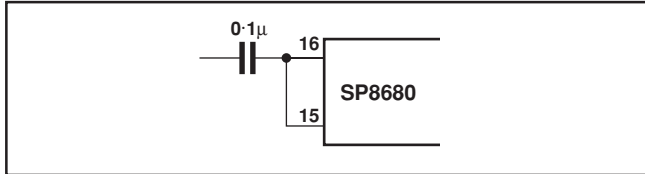
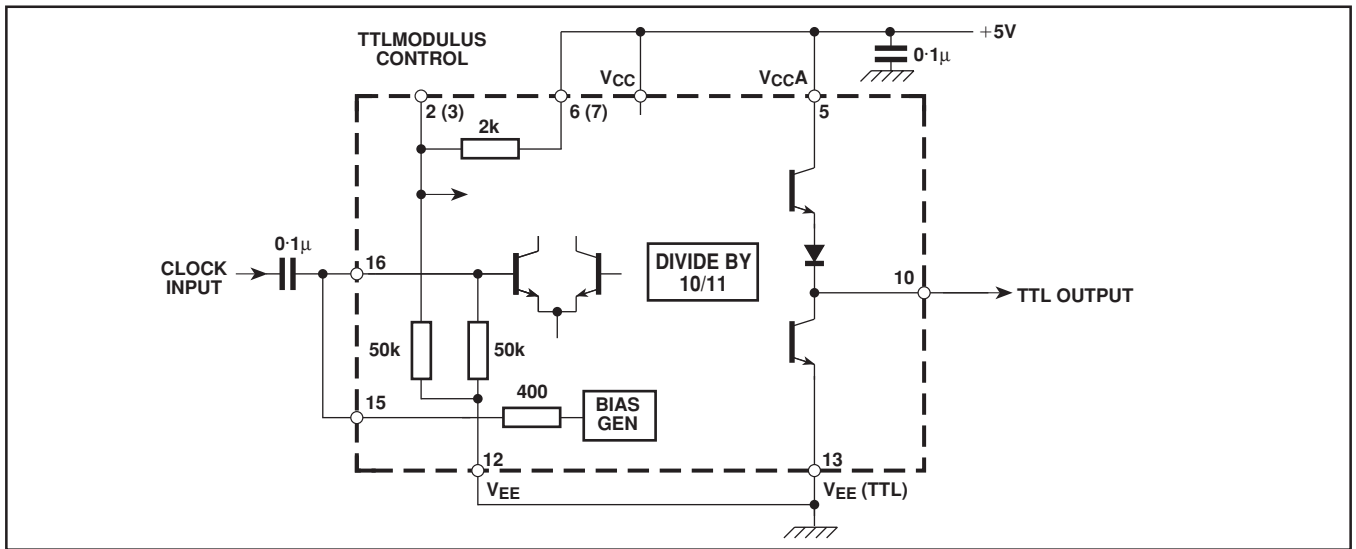

Fig. 6 AC coupled input
Fig. 7 Typical application showing TTL interfacing.
2. The test configuration for dynamic testing is shown in Fig.6.
1. The clock input, which is ECL10K compatible throughout the temperature range, can also be coupled to TTL as shown in Fig. 8. The clock can also be capacitively coupled to the signal source (see Fig. 6). Connecting the internally-generated bias voltage to the clock input i.e., pin 15 to pin 16, centres the clock input about the switching threshold (see Fig.7).